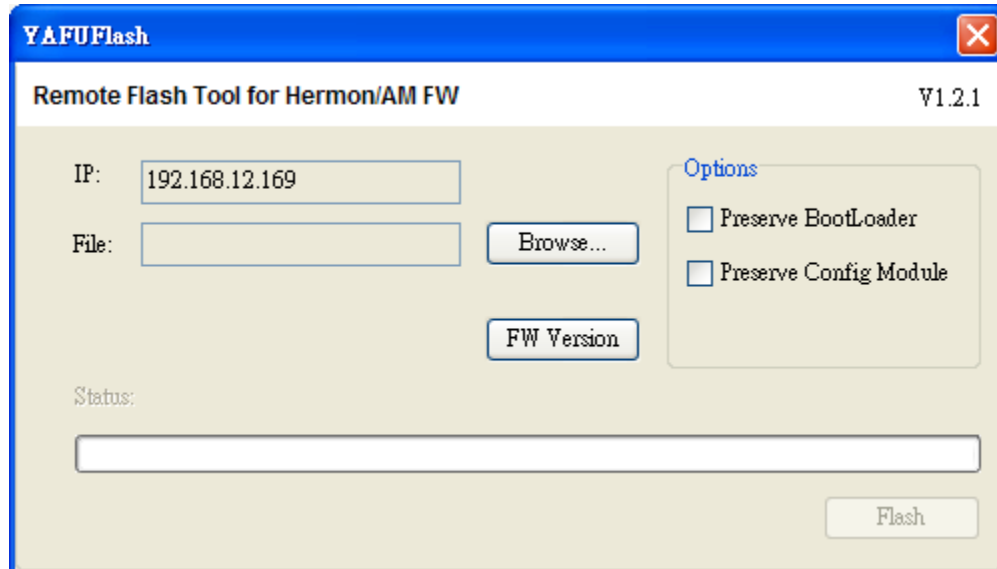

Figure D-2
1. To flash Hermon Firmware, The YAFU Flash Main screen will display as shown in Figure D-2.